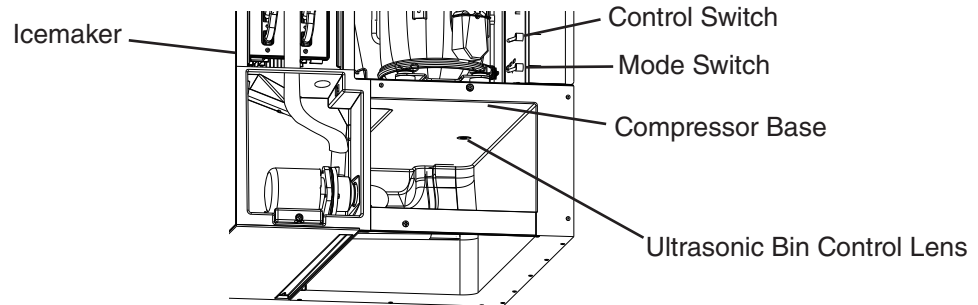

Fig. 12a
- 7) 1 min. fill cycle begins. Place an object 5" to 7" (127 to 178 mm) away from the bin control lens. See Figs. 12a, 12b, and 12c. 15 sec. later, the icemaker shuts down. Remove the object from the bin control lens. 30 sec. later, the icemaker restarts. For bin control shutdown times per cycle, see the table below: